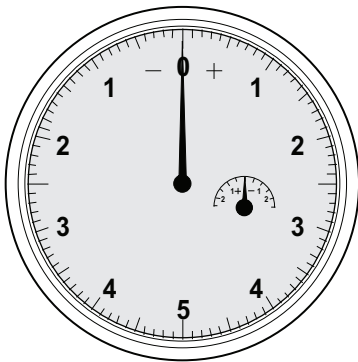

Figure 2. Pin Depth Gauge Scale
- b. **Beware of Destructive Pin Depth of Mating Connectors.** Measure the center conductor depth of DUT connectors that mate with 3670x50 cable connectors, *before* mating. Use an ANRITSU Pin Depth Gauge (Figure 2), or equivalent. Based on RF components returned for repair, destructive center conductor depth of mating connectors is the major cause of failure in the field. When a 3670x50 cable connector is mated with another connector having a destructive pin depth, damage will likely occur to the cable connector.